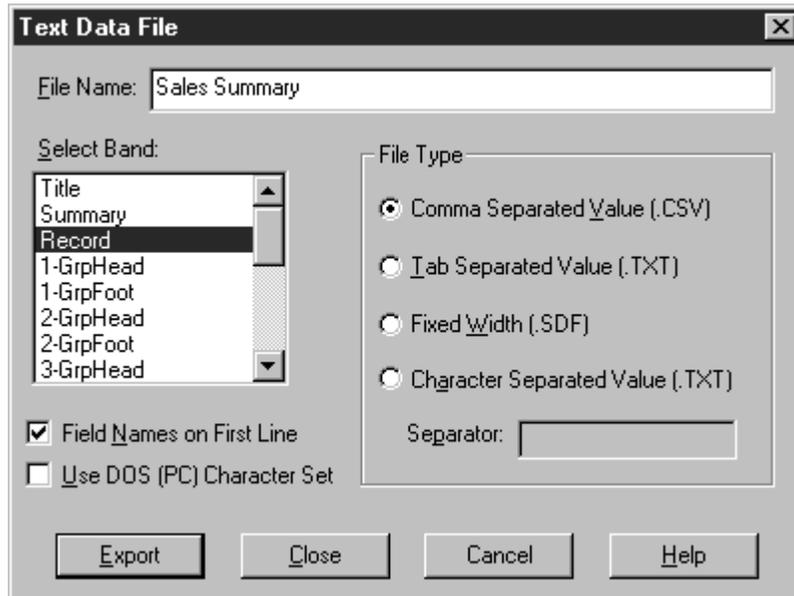

Figure 17.10 Text Data File Export Dialog
2. On the Text Data File dialog (see Figure 17.10), enter a name for the export file in the File Name box (default extension is determined by the File Type you select), optionally including a path.
6. By default, data is exported using the Windows (ANSI) character set. To use the DOS character set instead, click the "Use DOS (PC) Character Set" check box to turn that setting on.